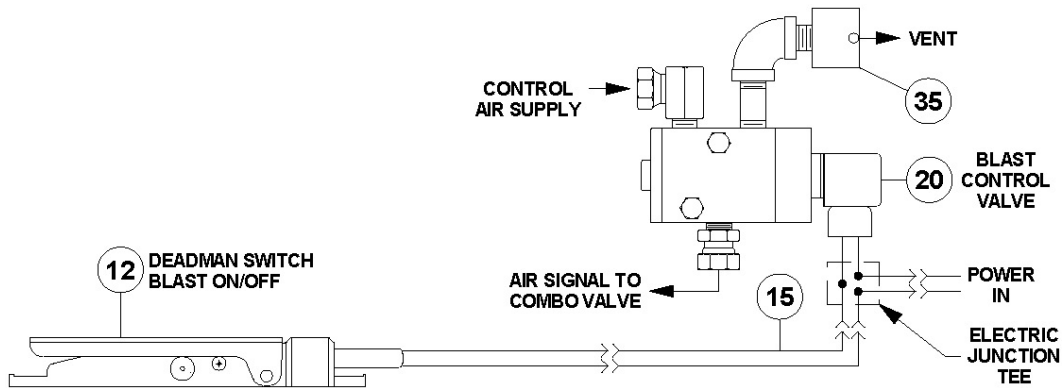
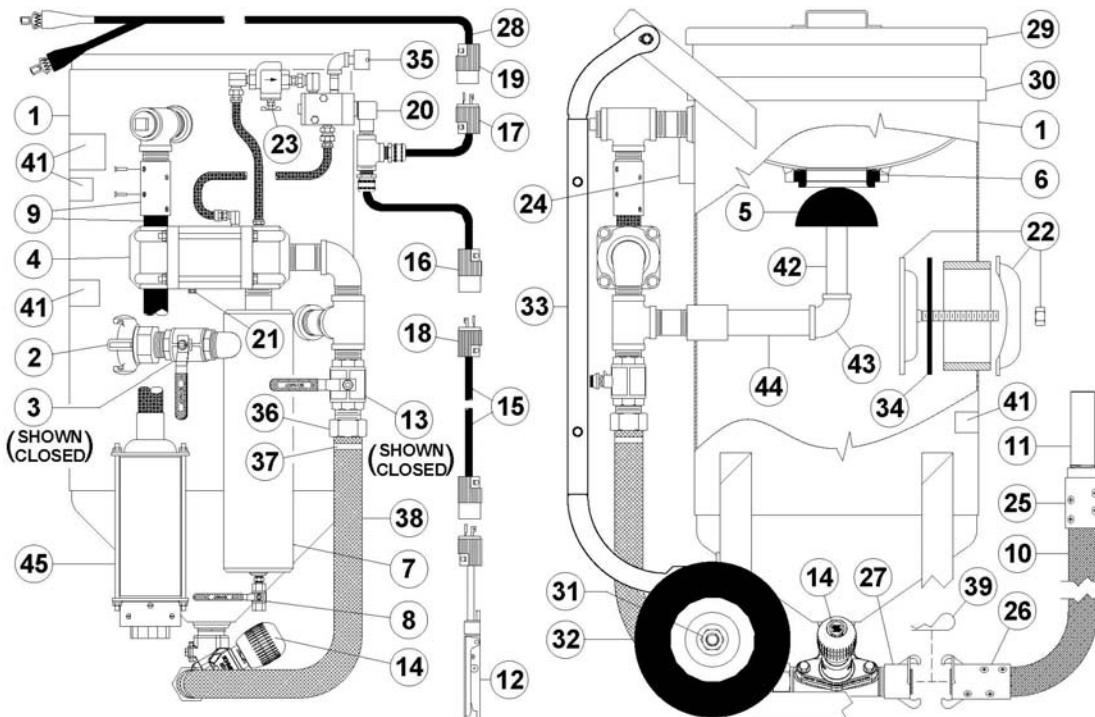

Figure 5.4 – MV3 Valve Electric Deadman Blast Control System
Figure 5.5 – MV3 Valve Abrasive Blaster with electric blast controls
5.8.2. Electric Deadman System: When the electric deadman lever (#12) is pressed down it closes the electric circuit and supplies electric current to the control valve (#20). The control valve opens and sends air signals to the Combo Valve (#4) to begin blasting. When the deadman lever is released the electric circuit is turned off closing the control valve. The signal air vents from the breather (#35) and the Combo Valve closes to stop blasting. See Figure 5.4, Figure 5.5 and the drawing in Section 9.3.
Figure 5.5 shows a MV3 Valve abrasive blaster with the electric deadman system. The popup valve, MV3 Valve, and Combo Valve operate the same as a blaster with a pneumatic blast control system. The difference is that the electric control system uses an electric control valve (#20) operated by the electric deadman switch as detailed in Section 5.8.2.